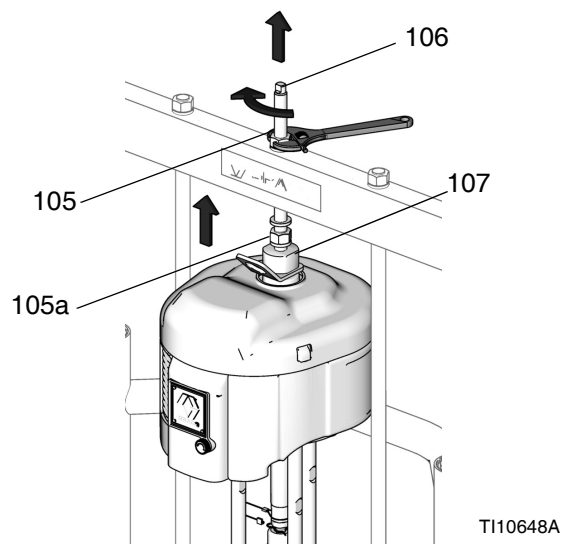

FIG. 20
- a. *For NXT 2200-6500 with 55 gallon platen:* Use wrench on nut (105) on top of ram bar to lower air motor onto displacement pump. See FIG. 20 on page 24. Thread nut (105) up and tighten it under ram bar. Tighten nut (105) below the crossbar to 25 ft-lb (34 N•m) maximum.